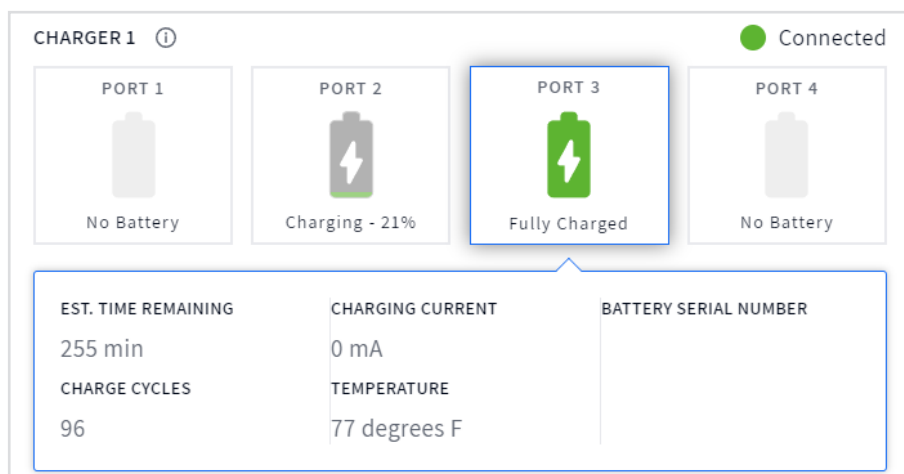

Fig. 1.11
4. Tap on a port tile for more battery details. For example, in Fig. 1.11, the third tile (Port 3) was tapped, prompting additional details to be displayed about the battery docked in this port.